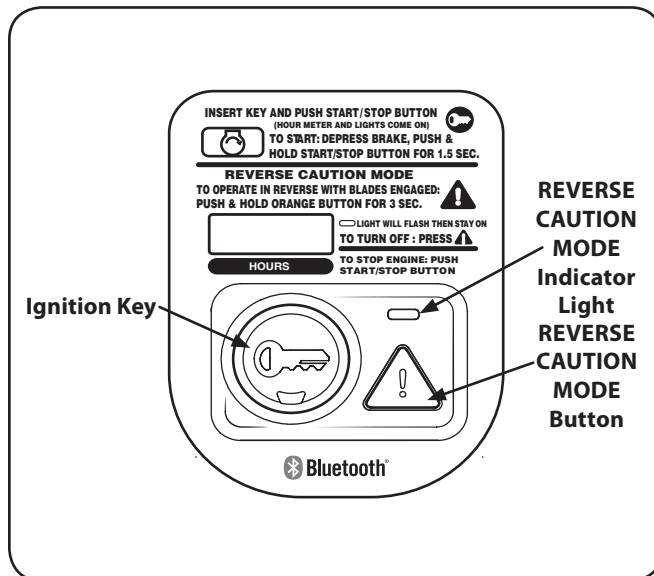

Figure 5-1
2. To activate the REVERSE CAUTION MODE push and hold the REVERSE CAUTION MODE button for 3 seconds. See Figure 5-1.
3. The indicator light will flash and then stay on while the REVERSE CAUTION MODE is activated. See Figure 5-1.